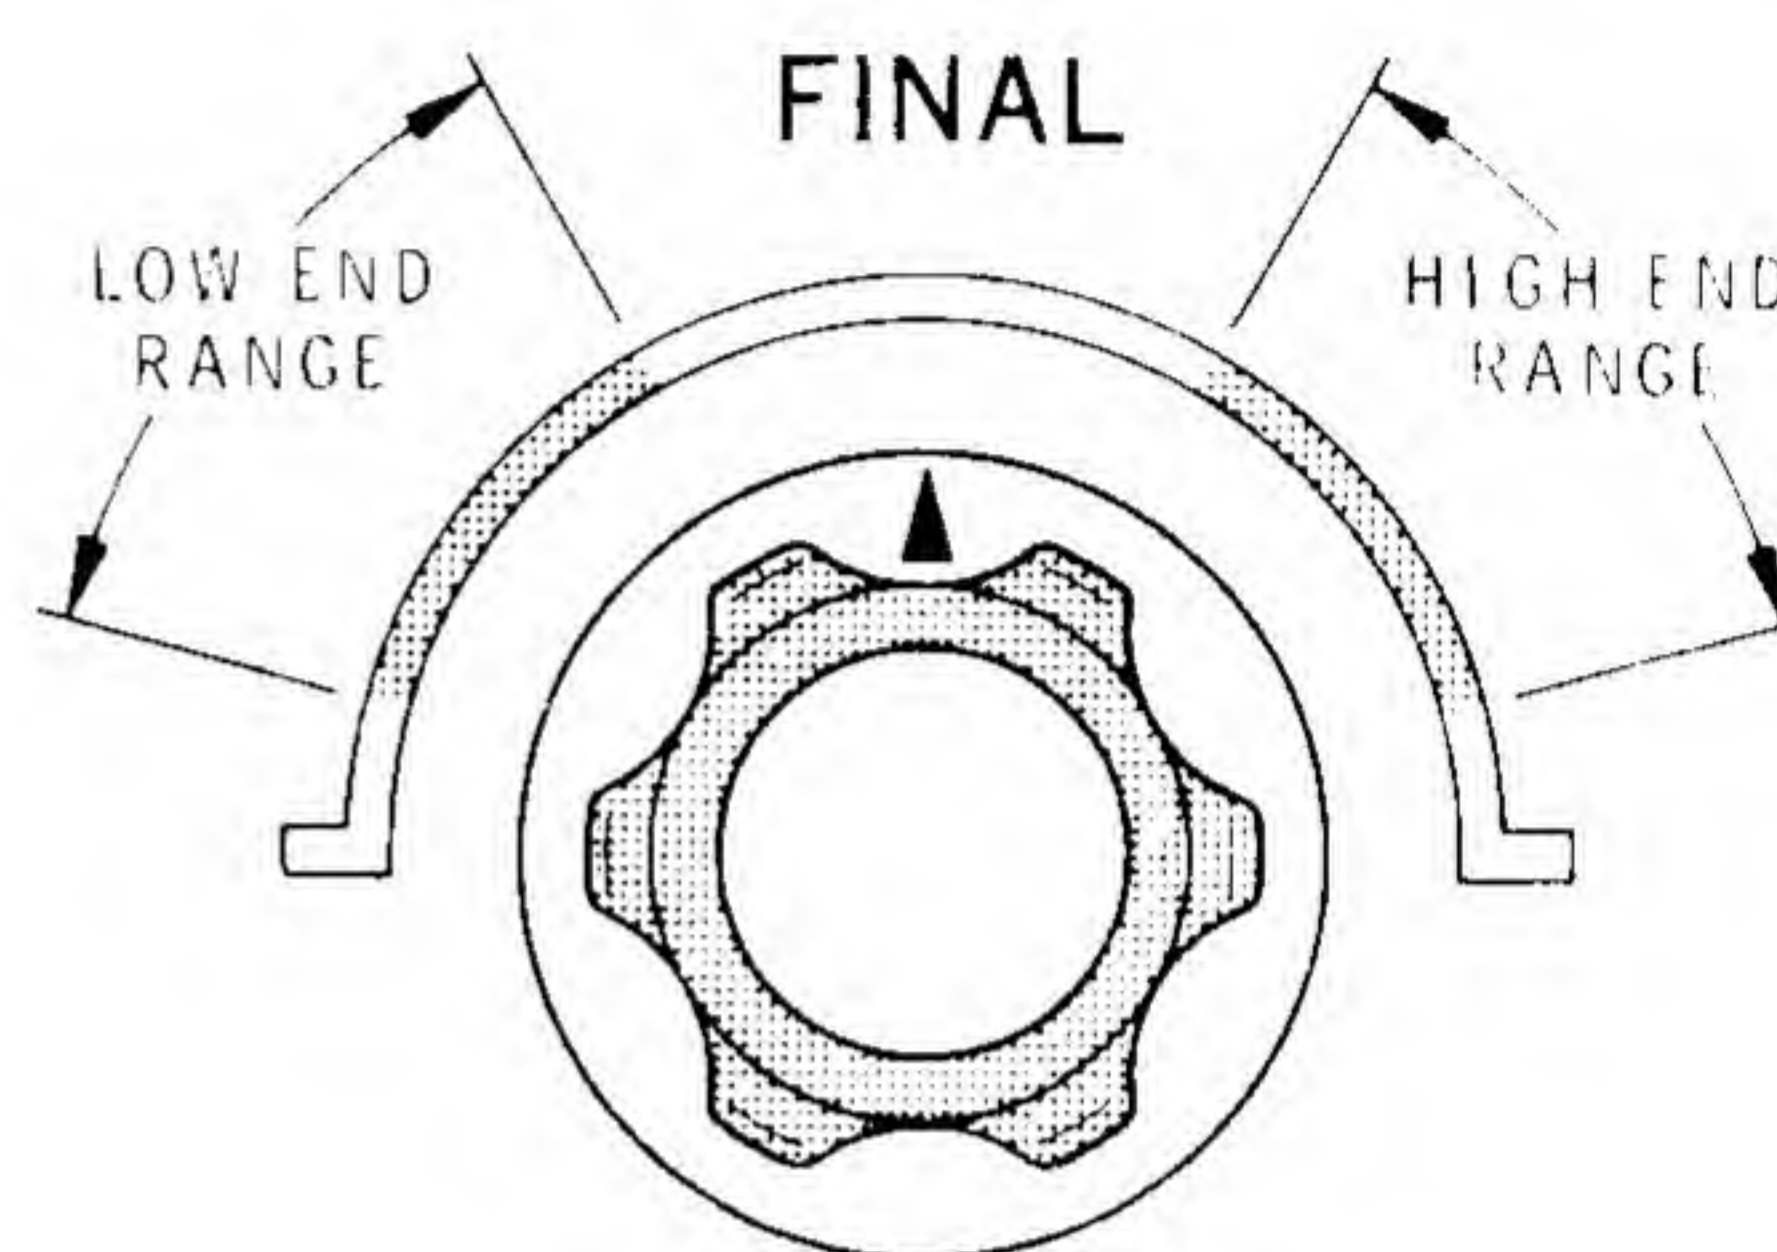

Figure 8-4
- () Keep the LB equipment on TUNE and turn the Transverter FINAL knob index mark back and forth around the 10 o'clock position while watching the VTVM. If the peak voltage occurs with the knob index mark between 9:30 and 11 o'clock, no adjustment action is required (See Figure 8-4). If the peak voltage is observed earlier than the 9:30 o'clock position, more inductance is required. If the peak voltage is observed later than the 11 o'clock position, less inductance is required. Perform the appropriate group of steps following.